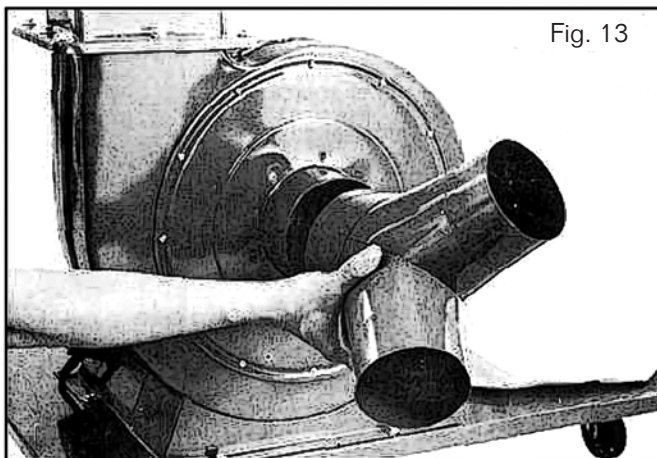

Fig. 13
11. The shutter can now be placed on the intake hole of the fan / motor assembly as shown in figure 13.